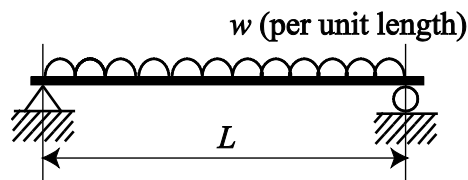

Figure 1
- † 1. The beam shown in Figure 1 is of length L and is simply supported at its ends. It is subjected to a uniformly distributed transverse load of intensity w .